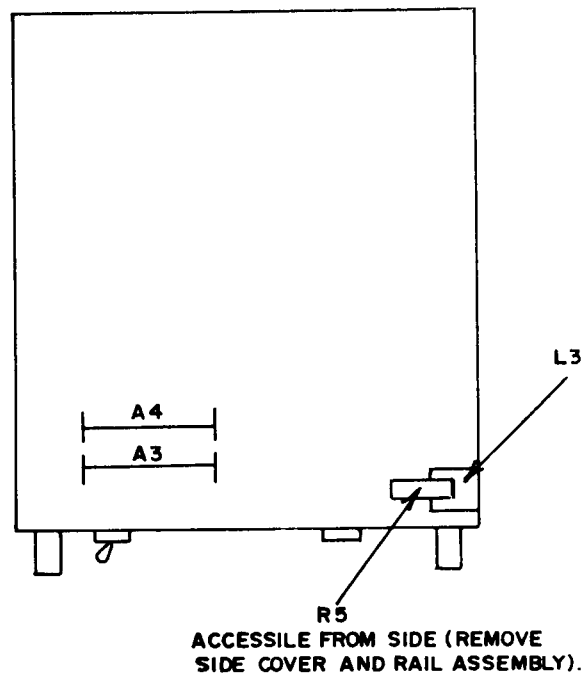
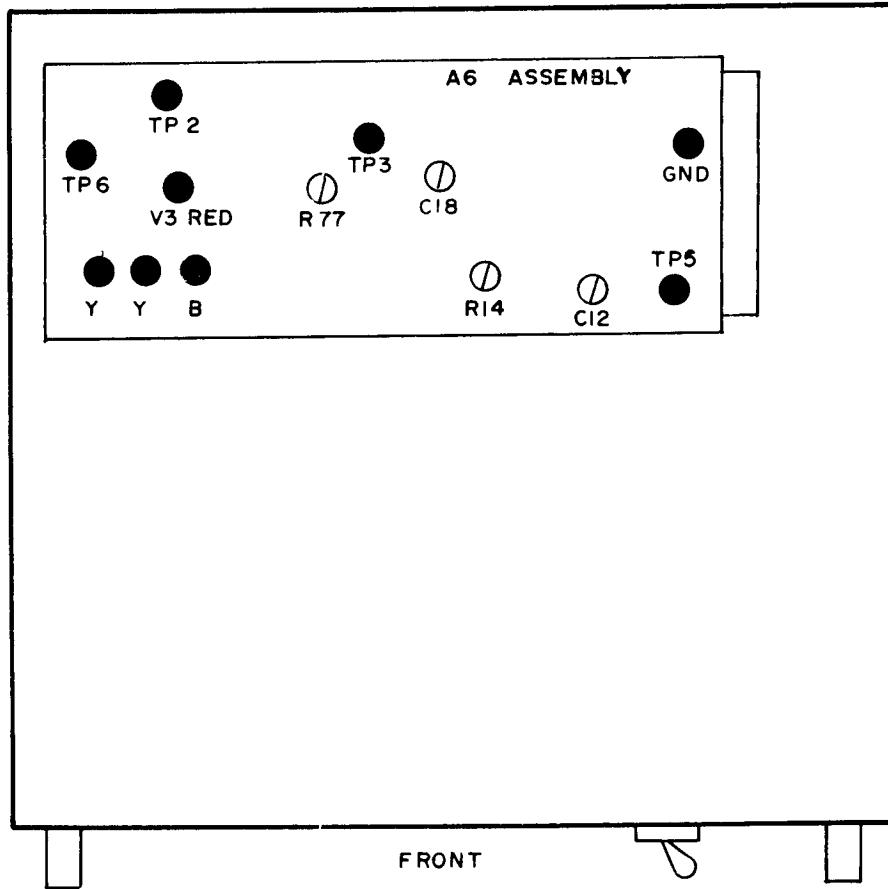
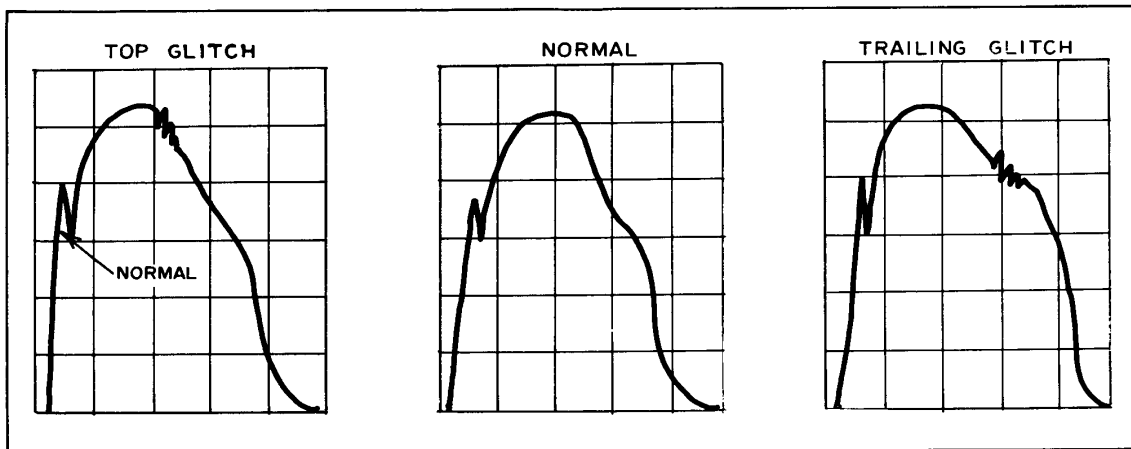

Figure 6. Model 746A top view - Adjustment locations.
Figure 7. Model 746A bottom view - adjustment location.
Figure 8. Waveform at A6TP2.
(2) Set thermal transfer standard to ac balancing state. Adjust R5 (fig. 6) to obtain null indication on thermal transfer standard meter X pushbutton pressed (R).
(3) Press FREQUENCY RANGE X10K pushbutton and adjust FREQUENCY control to obtain FREQ scale indication of 10.0.
(4) Repeat (1) above.
(5) Set thermal transfer standard to ac balancing state. Adjust L3 (fig. 6) to obtain null indication on thermal transfer standard meter with its null X5 pushbutton pressed (R).
(6) Press OUTPUT OFF pushbutton.
(7) Remove bottom cover from TI (model 746A only). Remove plastic cover from A6 amplifier assembly (fig. 7).
(8) Connect ac/dc voltmeter high voltage leads between test point B (fig. 7) and GND (circuit ground).
(9) Press OUTPUT ON pushbutton.
(10) Adjust A6R14 (fig. 7) to obtain indication of 1850 V dc on ac/dc voltmeter (R).
(11) Move ac/dc voltmeter leads to test point A6TP6 (fig. 7) and GND (circuit ground).
(12) Adjust A6R77 (fig. 7) to obtain indication of 1820 V dc on ac/dc voltmeter (R).
(13) Press OUTPUT OFF pushbutton.
- (14) Connect variable capacitor across TI output (connect at isolation box, using cable). Set variable capacitor dial to 50 pF.
- (15) Connect oscilloscope (A7) to A6TP2 (fig. 7), using probe (B11).
- (16) Position TI controls as listed in (a) through (d) below:
- (17) Adjust (increase) TI output in 100 V steps to 700 V or until a glitch appears on waveform as shown in figure 8.
- (18) If no glitch appears, adjust (increase) capacitance of variable capacitor until it does appear. After glitch appears, adjust A6C18 (fig. 7) until waveform becomes clear and then another glitch appears. Note range of A6C18 between points where glitches appear.
- (19) Adjust (increase) capacitance of variable capacitor and adjust A6C18 until range as noted in (15) above is minimum (R).
- (20) Connect ac/dc voltmeter to A6TP6 (fig. 7) (same as V3 RED) and circuit ground, using leads supplied with ac/dc voltmeter.
- (21) Adjust A6R77 (fig. 7) to obtain indication of 1800 V dc on ac/dc voltmeter (R).
- (22) Adjust variable capacitor for 100 pF.
- (23) Adjust TI output from 700 V to 100 V. The oscilloscope will not show signs of oscillations.
- (24) Set voltage controls to obtain indication 700.000 V and adjust frequency from 110 to 10 kHz. If oscilloscope indication is not smooth with no oscillations, repeat (7) through (20) above.
(25) Set voltage controls to obtain indications of 100.000 V. Press FREQUENCY RANGE X1K pushbutton and adjust FREQUENCY control to obtain FREQ scale indication of 1.0.
(26) Connect ac/dc voltmeter between A6TP5 (fig. 7) and circuit ground, using cable and adapter (B6 and B2). If ac/dc voltmeter does not indicate 10 V ac, use ERROR RANGE pushbuttons and ERROR MEASUREMENT control to obtain 10 V ac indication.
(27) Press FREQUENCY RANGE X10K pushbutton and adjust FREQUENCY control to obtain FREQ scale indication of 10.0.
(28) If ac/dc voltmeter does not indicate between 10.3 and 10.7 V ac, adjust A6C12 (fig. 7) to obtain indication of between 10.3 and 10.7 V ac.